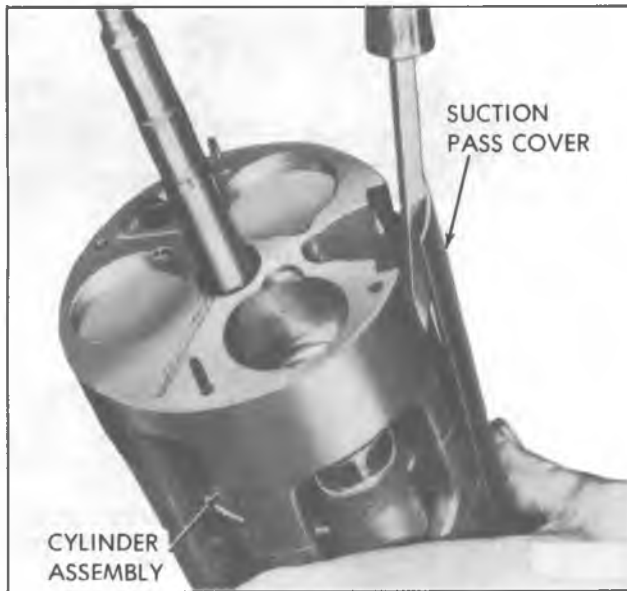

Fig. 29--Removing Suction Cross Over Cover
19. Remove suction cross-over cover by prying with screwdriver between cylinder casting and cover (Fig. 29).